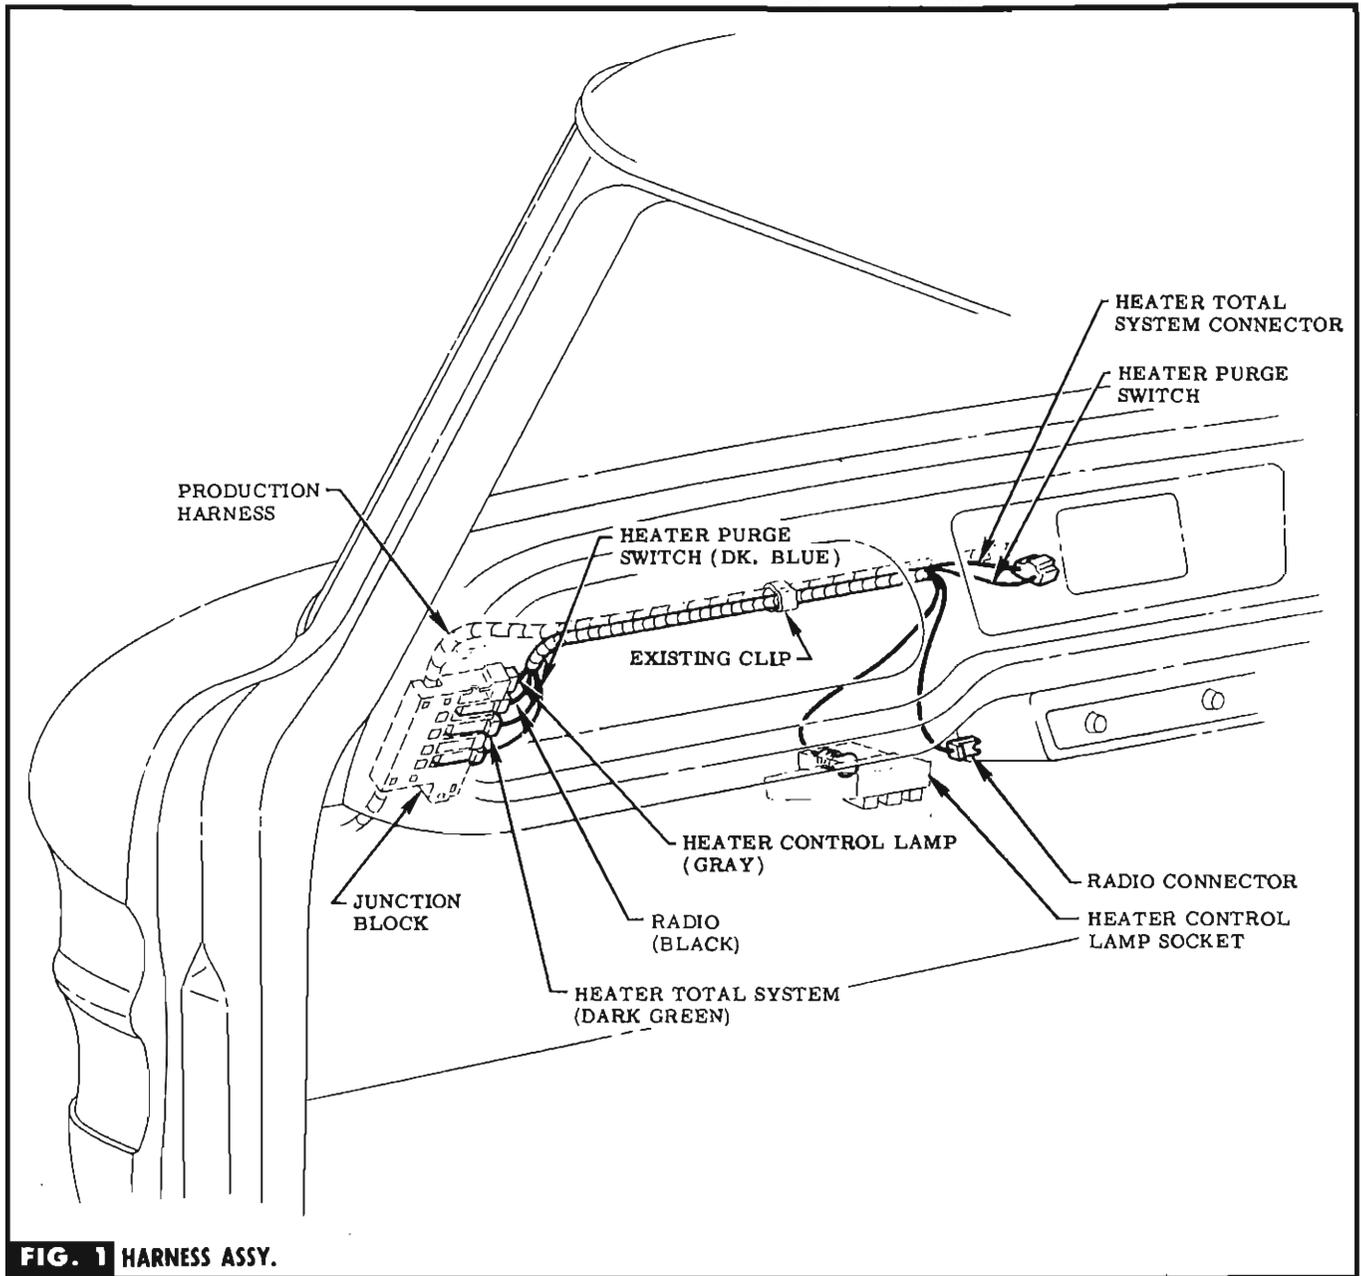

FIG. 1 HARNESS ASSY.
STEP 1 PLUG LEADS INTO JUNCTION BLOCK ONLY IF CONCERNED WITH ACCESSORY SPECIFIED. SEE FIG. 1.